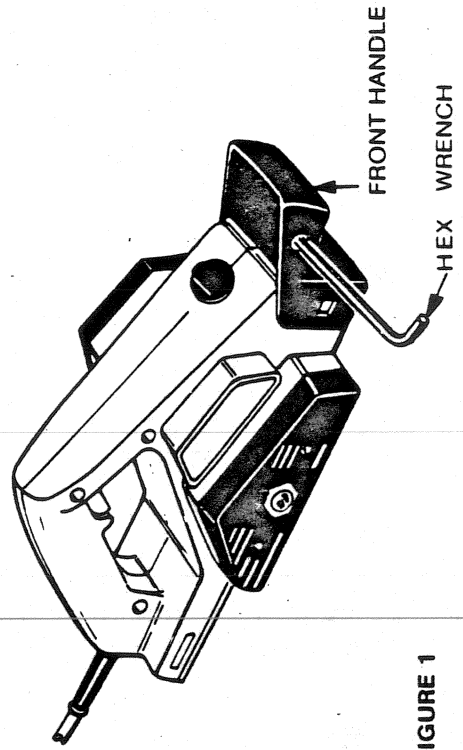

FIGURE 1
2. Using the hex wrench provided with the tool, loosen and remove the front handle screw, as shown in figure 1.